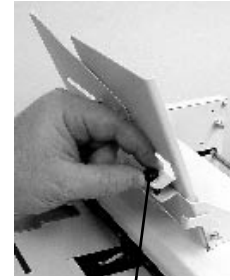

Fig 8b
5. If the fold is skewed, turn the skew adjustment knob located on the back of the feeder left or right to make corrections (Fig 8b).